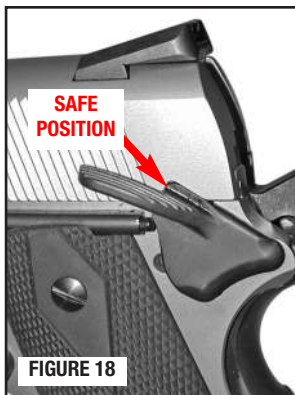

FIGURE 18
- Ensure that the hammer is fully rearward and then place the safety lever in the fully up “safe” position (FIGURE 18).